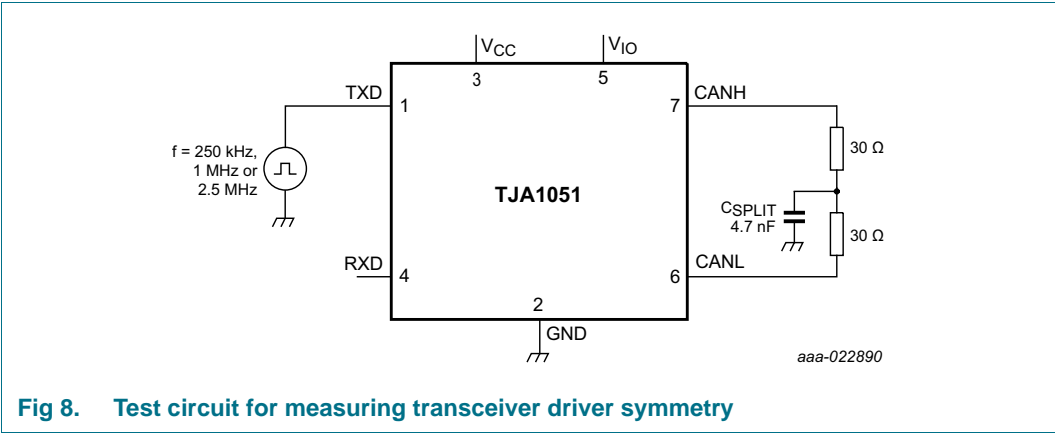

Fig 8. Test circuit for measuring transceiver driver symmetry
- [7] The test circuit used to measure the bus output voltage symmetry (which includes C_{SPLIT}) is shown in Figure 8.